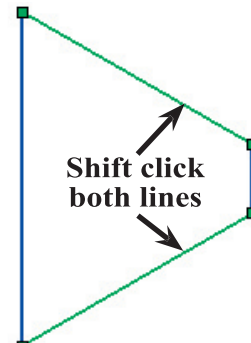

Fig. 23
Step 2. Select the **top and bottom lines**. Use **Ctrl click**, to Ctrl click, hold down the Shift key and click both lines, **Fig. 23**.